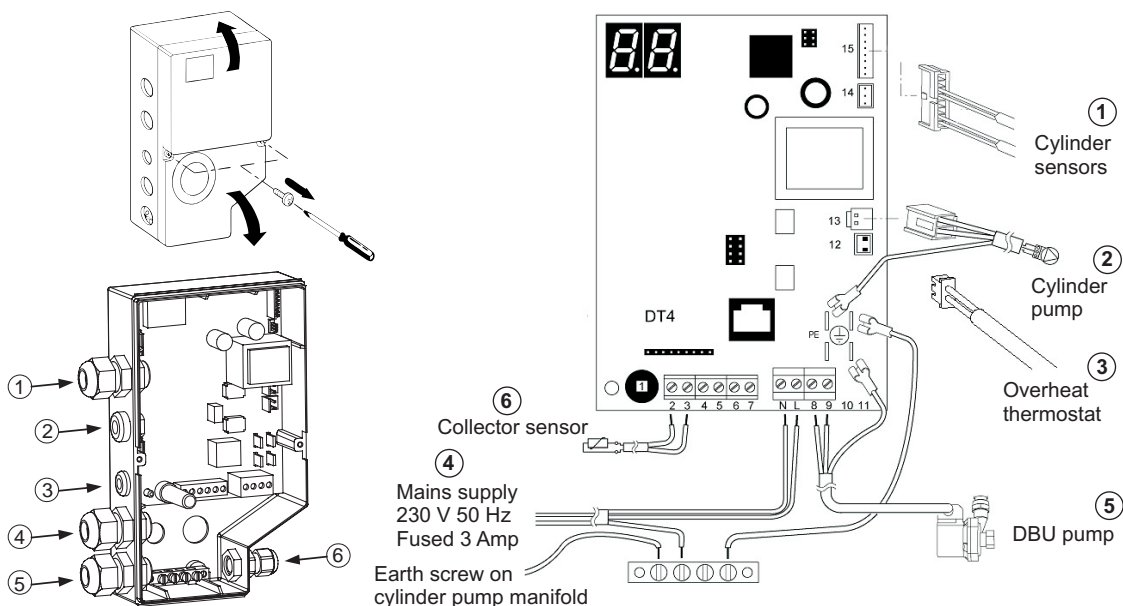

Fig. 18
#### 4.10 ELECTRICAL CONNECTIONS - See Fig. 18 and Refer to Wiring Diagram Section 9
Ensure that the cable is secured in the cable clamp (5 in Fig 18).
Ensure that the cable is secured in the cable clamp (6 in Fig. 18).
4. Connect the cylinder sensors to the corresponding Red and White plugs in the control box. (terminal 15). Use cable clamp 1 as shown in Fig. 18.
5. Connect the cylinder pump plug to terminal 13. Use cable clamp 2 as shown in Fig. 18.
6. Connect the overheat thermostat to terminal 12. Use cable clamp 3 as shown in Fig. 18.
**Note:** The solar cylinder has been fitted with a mains supply cable. However, if it is necessary to fit an alternative supply cable refer to Section 3.1 and release the cable clamp (4 in Fig. 18). Connect the new lead as follows: